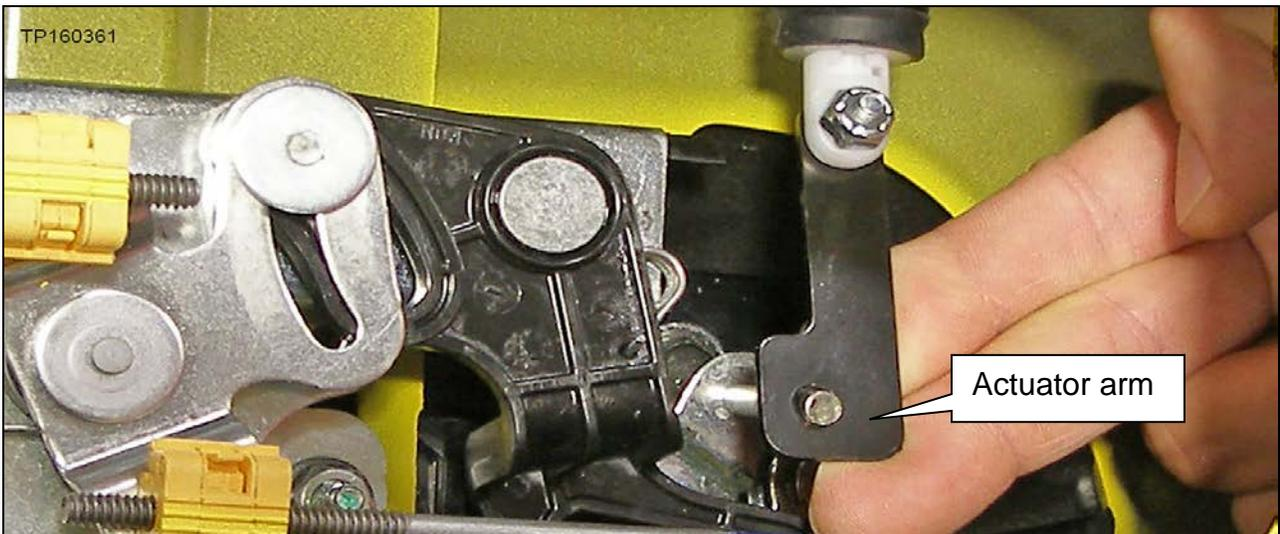

Figure 8
b. Lift the actuator arm off the pin as shown in figure 8.